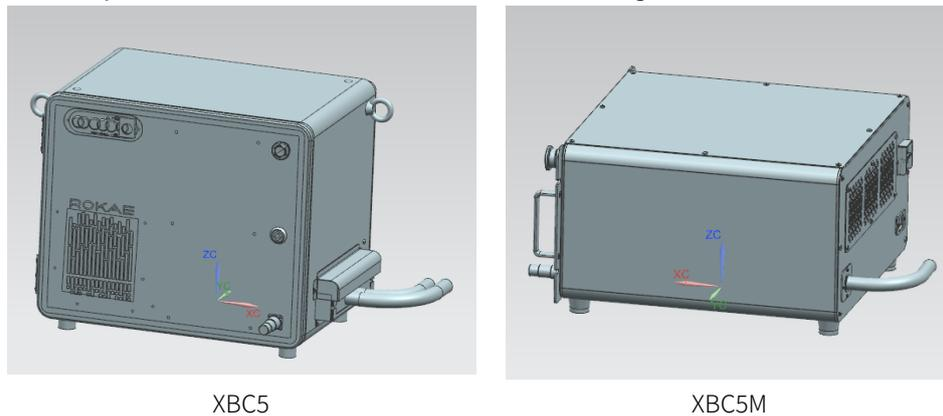

Fig. 14 The bending radius of the relay cable of the control cabinet
- Reserve a space for the cable outlet on the control cabinet. The bending radius of the relay cable should be 150 mm at least, as shown in Fig. 14.